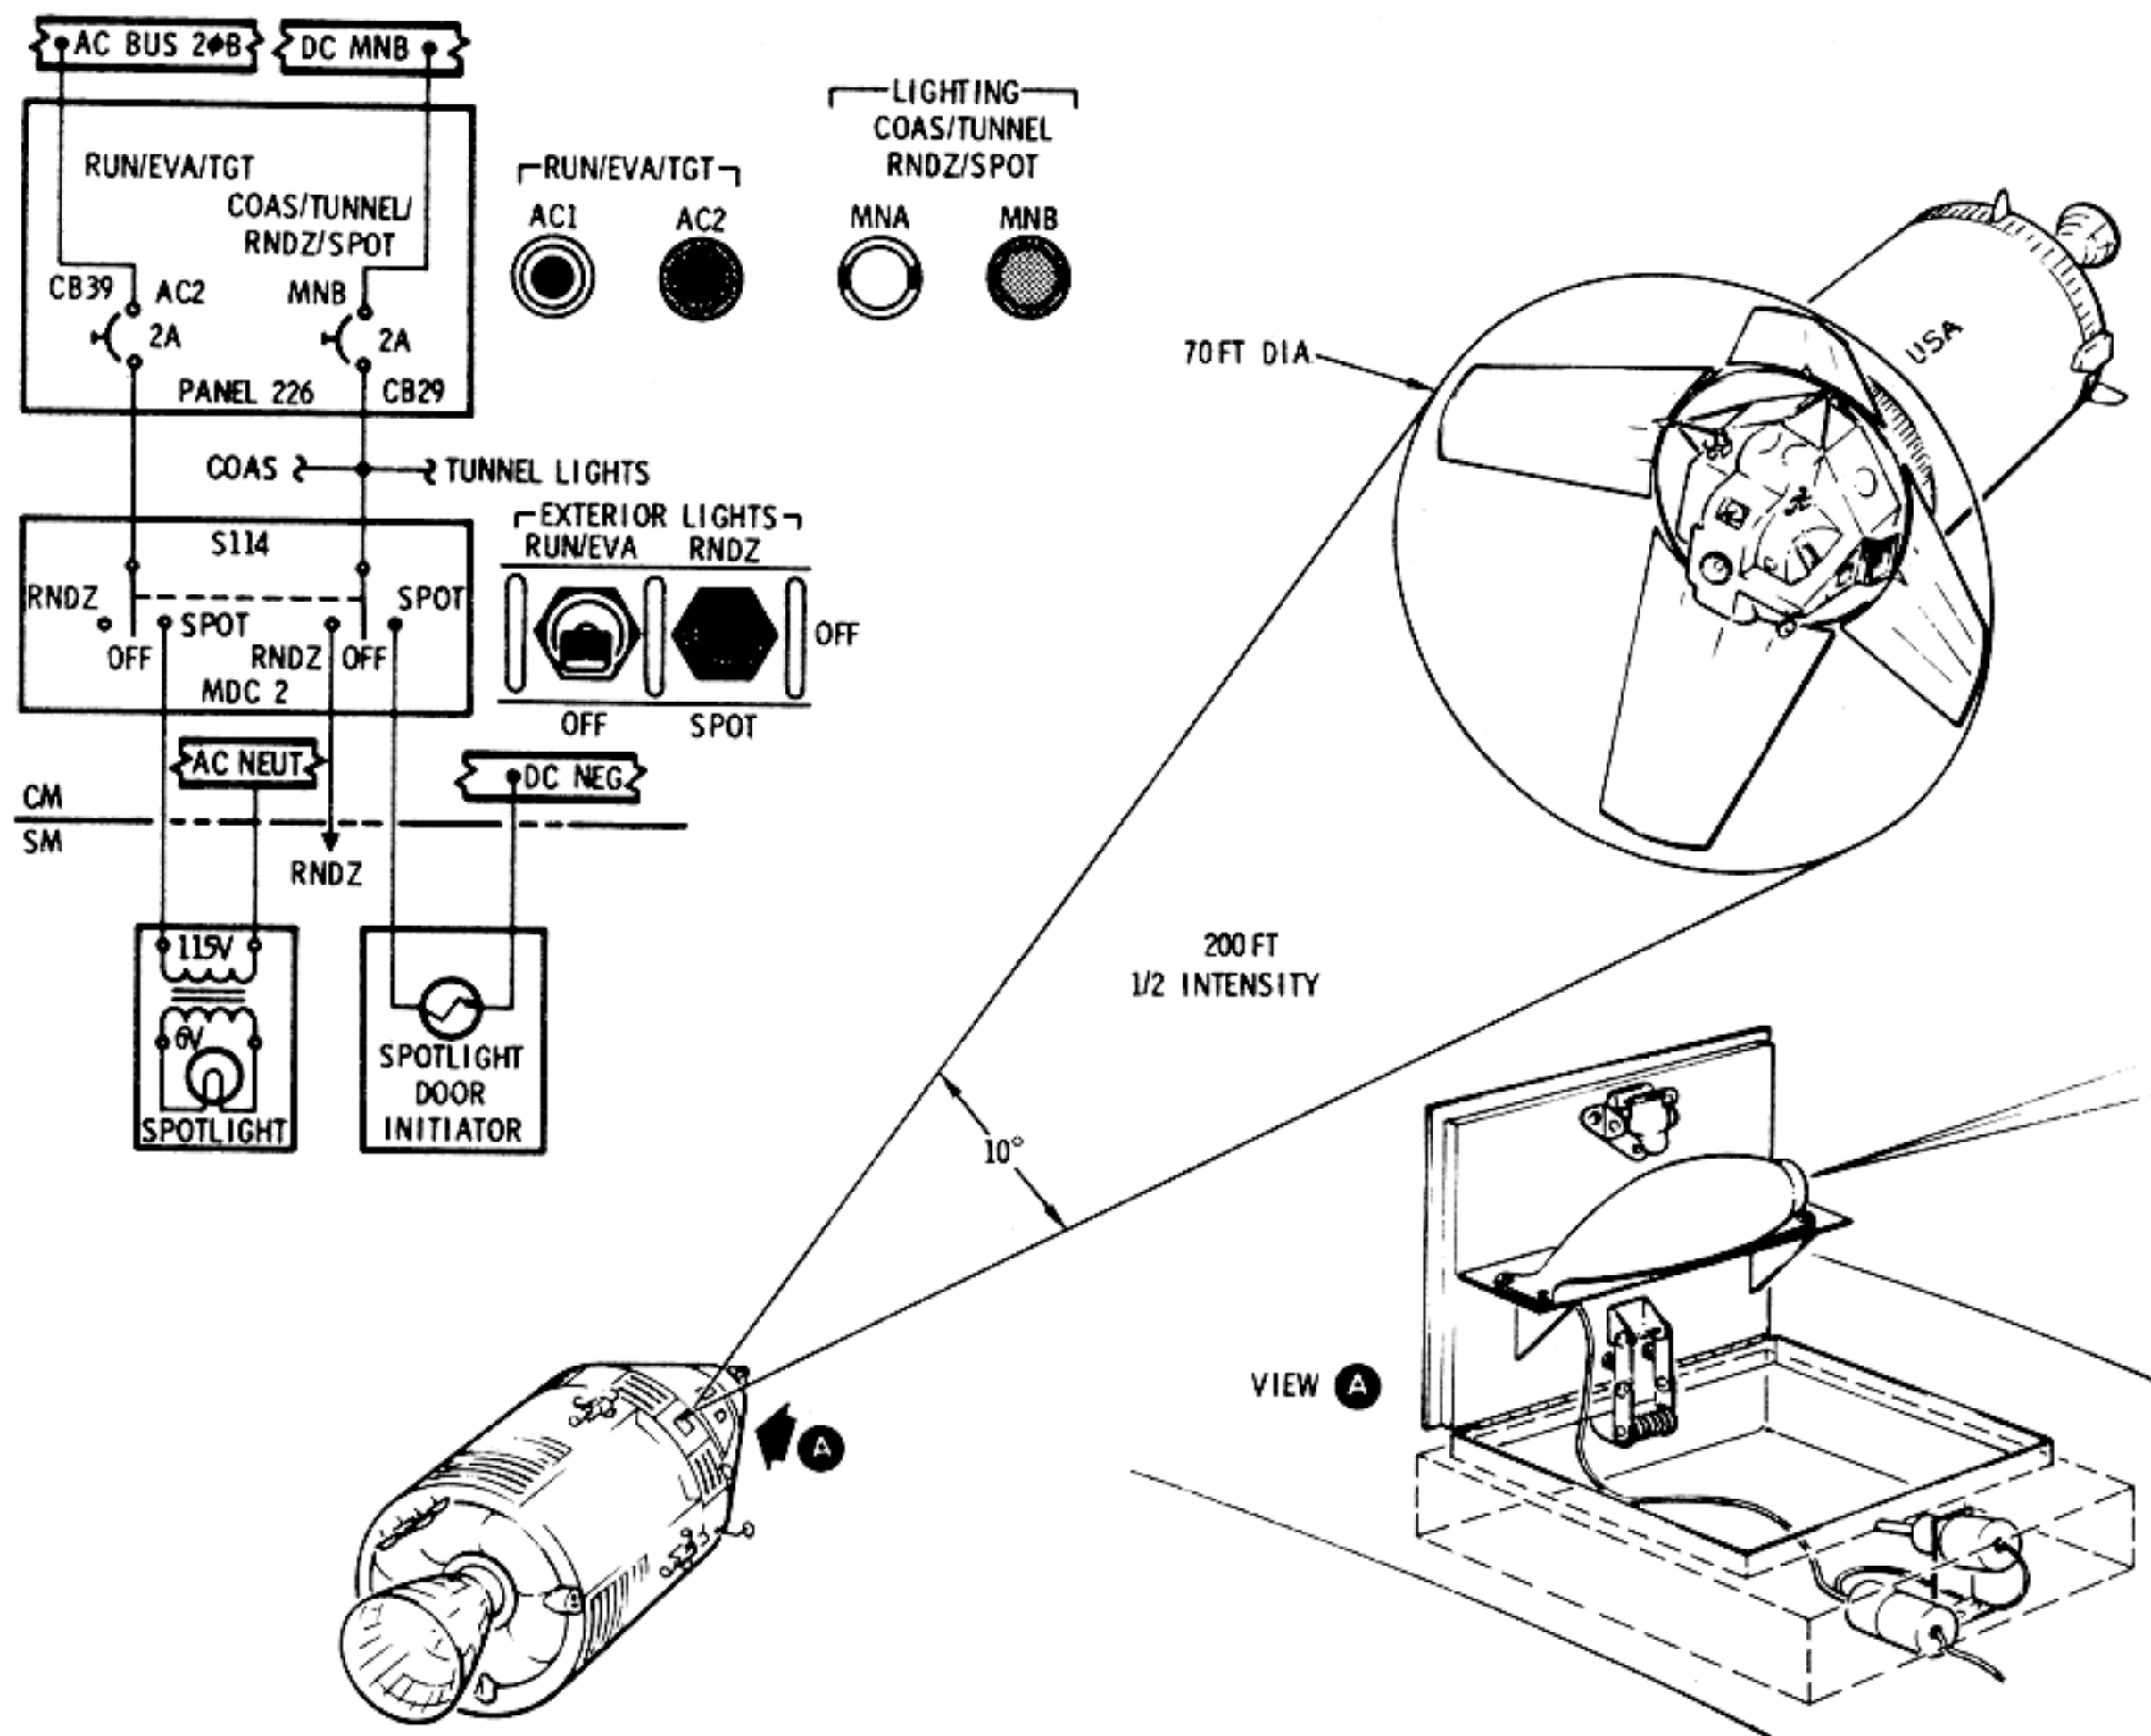

Figure 2.12-25. Docking Spotlight
2.12.4.2.1 Docking Spotlight (Figure 2.12-25).